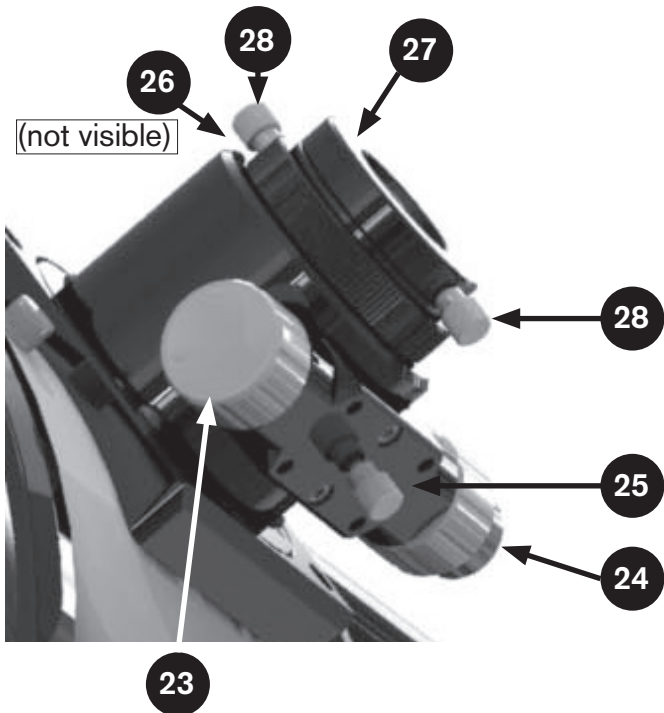

FIGURE 4: AZIMUTH BEARING ASSEMBLY
1. Center bearing bushing (29).
2. Two large bearing plates (30) and large needle bearing (31).
3. Small needle bearing (32) with two small and one large washer (33).
4. Azimuth adjustment knob (34)
Place the center bearing bushing (29) into the countersunk hole on the top side of the base bottom panel (16). Slide one of the large roller bearing plates (30) over the center bushing (29) followed by the large roller bearing (31). Place the remaining bearing plate (30) on top of the roller bearing (29). Lastly, place the top panel (16) onto the center busing. The correct orientation of the top panel is with the six threaded holes facing up. See Figure 4.